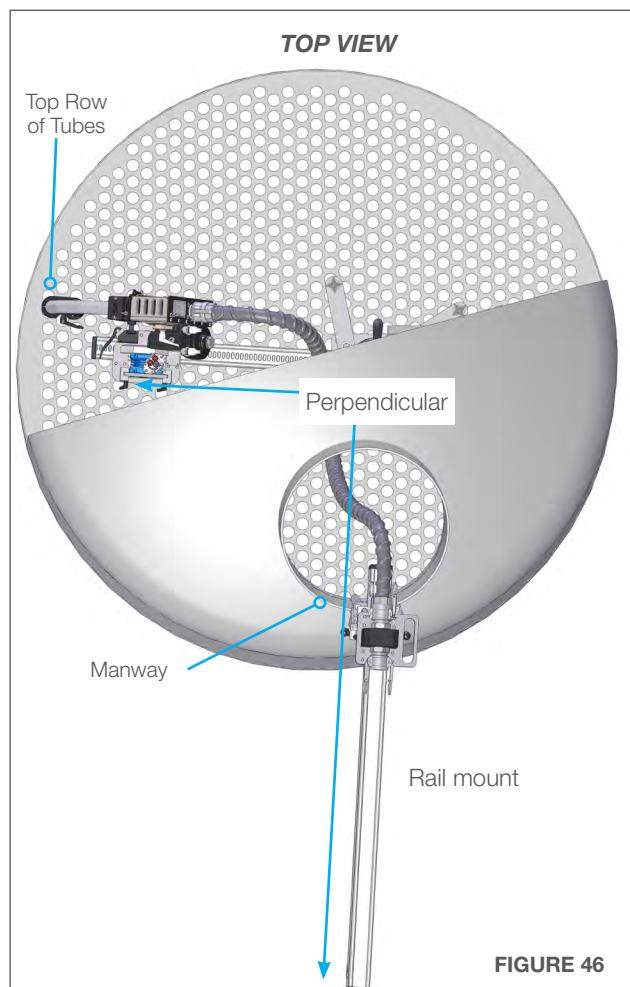

FIGURE 46
1. Correct placement of the Rail Mount in relation to the Linear Drive Rail should be more or less Perpendicular. This position helps relieve stress on the Snout and allows the hose to travel more freely. (**Figure 46**)